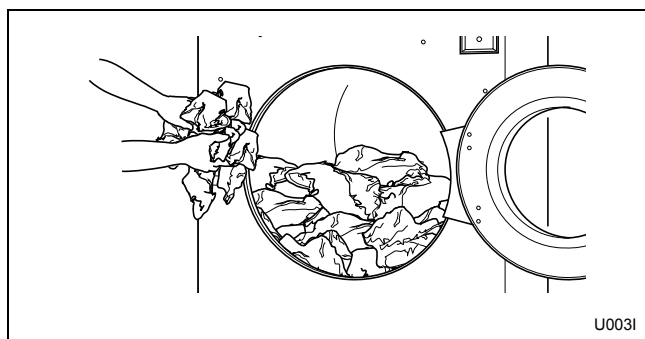

Figure 4
3. Load to capacity whenever possible. DO NOT OVERLOAD. Refer to *Figure 4*.